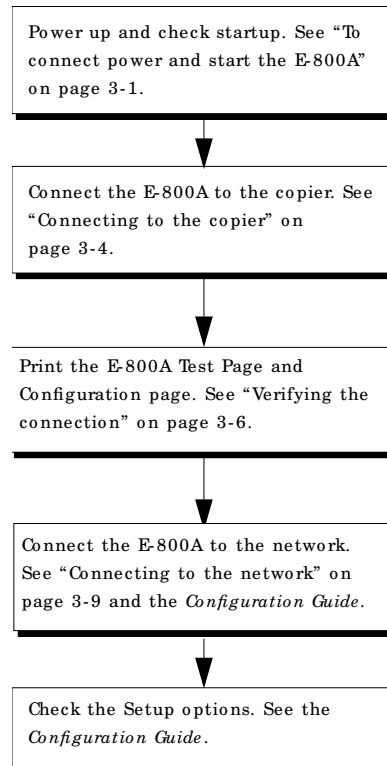

FIGURE 4-9 E-800A connection verification steps
7. Before you leave the customer site, verify E-800A operation as outlined in Figure 4-9.